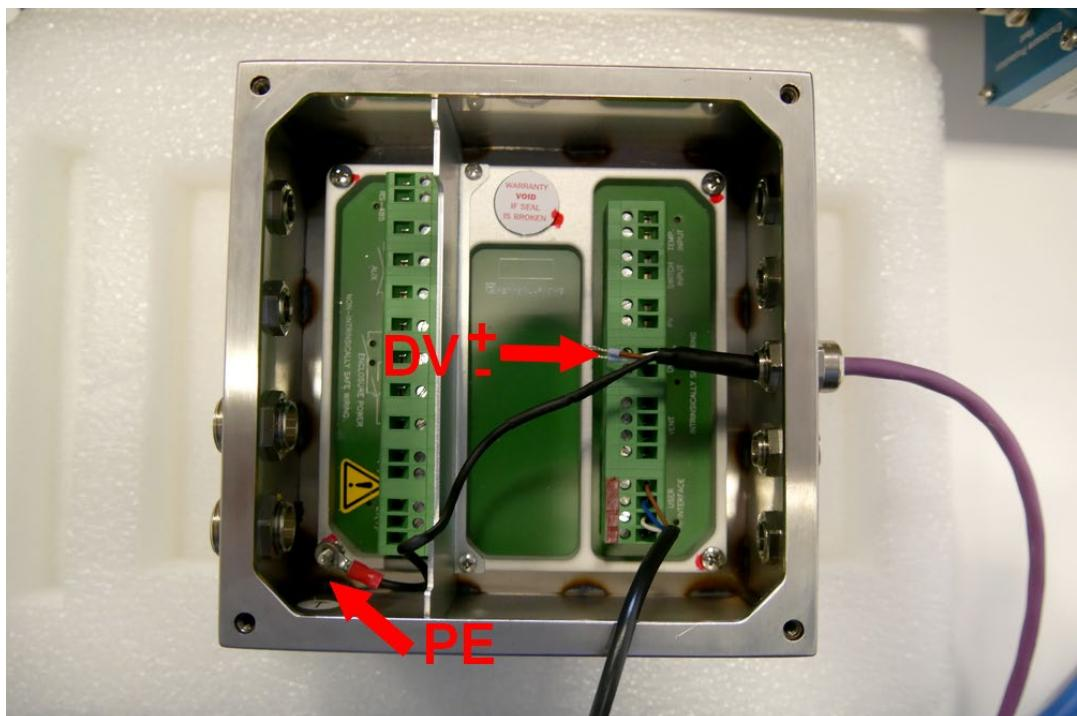
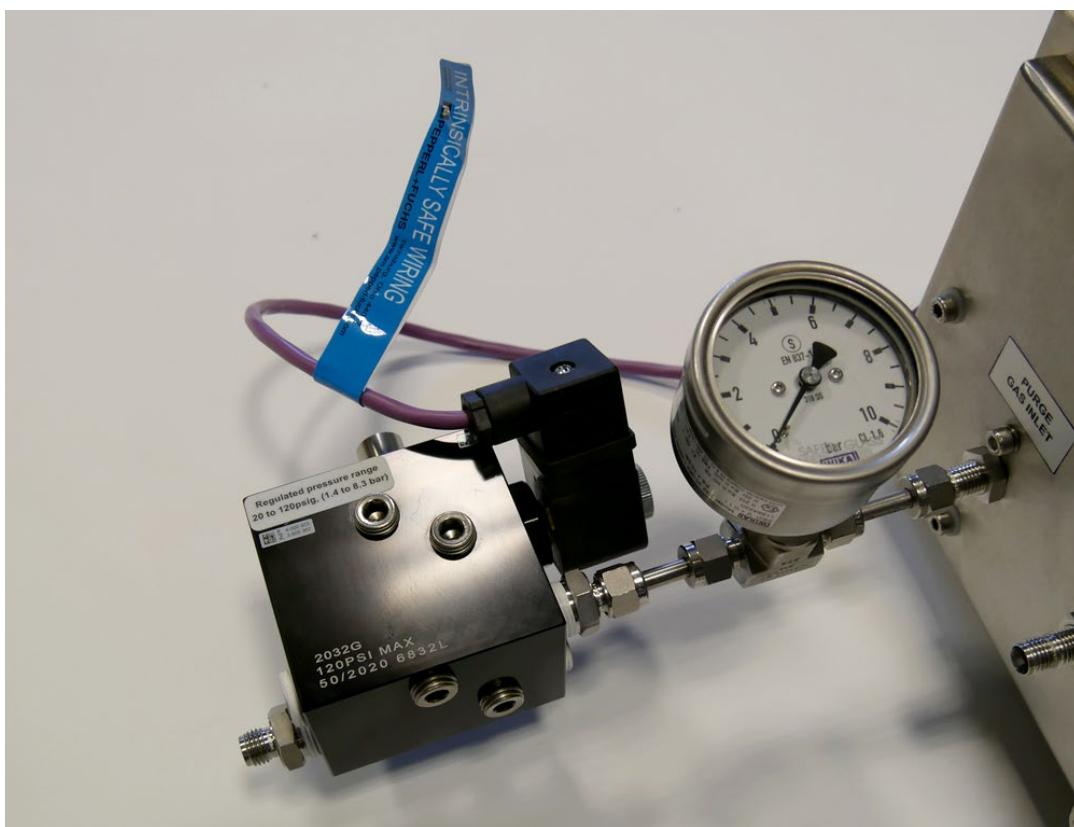

Figure 139. Manifold connectors – controller side.
Figure 140. Manifold installed.
3. Install the manifold block control signal cable (7) (3x1mm² cable) between the 6500 "DV" terminals and the manifold block. Pass the cable through the cable gland on the manifold block and screw on the wires as shown on **Figure 139**.
5. Put the manifold control signal cable through M12 cable gland of the controller (**Figure 139**). After installation (**Figure 140**), affix the included blue stickers with the words “Intrinsically safe wiring” to both ends of the cable.